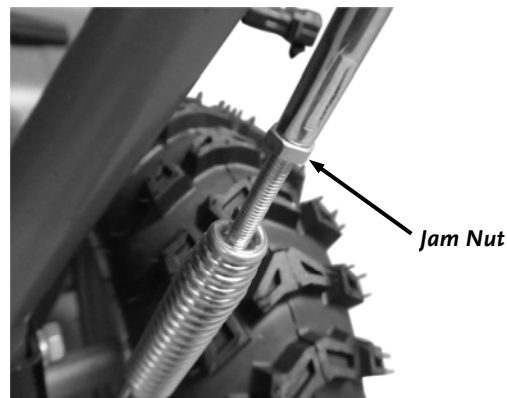

Figure 12
9. Check the Jam Nuts on the Auger Control Cable and Drive Control Cable to ensure they are tight (**Figure 12**). Tighten as needed using a 6mm Wrench to hold the Cable and an 8mm Wrench to tighten the Nut.